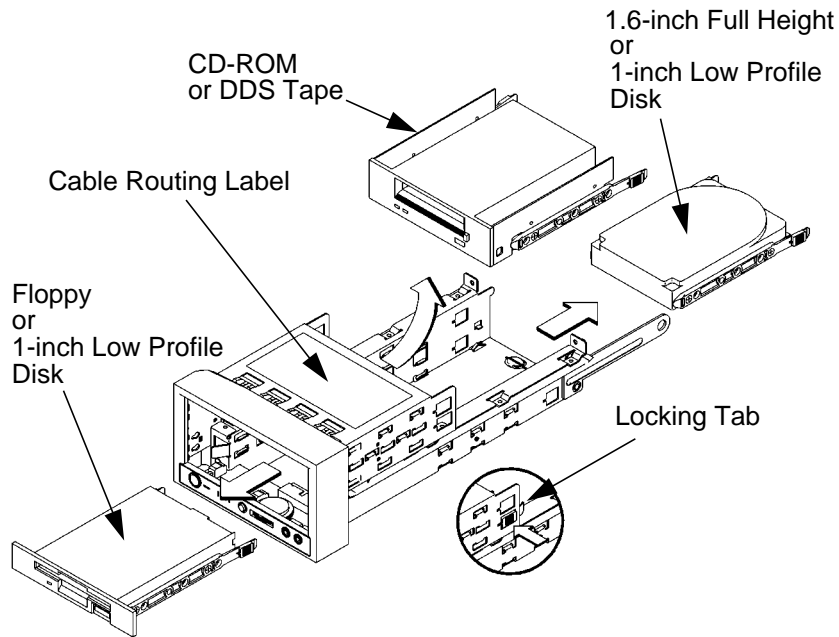

Figure 34 **Removing a Storage Device**
- 2 Push in the locking tab on each side of the disk tray and slide the device out of the storage tray, as shown in Figure 34.